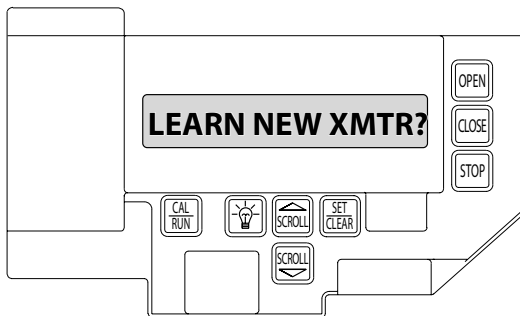

FIG. 1
2. Press SCROLL (up or down) until display reads LEARN NEW XMTR? FIG. 1.